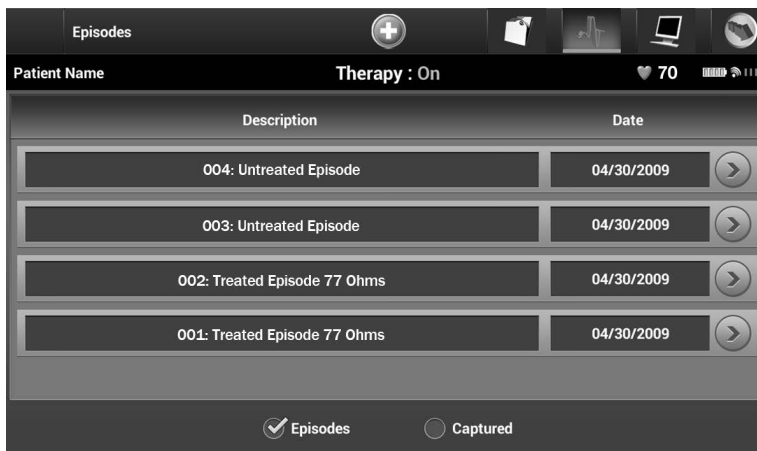

Figure 36: *Stored Episodes screen (scrollable list)*
Note: *Choosing the “View” button in the Treated Episodes row allows navigation directly to the list of stored episodes (Figure 36).*
5. Select an episode (treated or untreated) from the list (Figure 36). The selected episode will be downloaded from the SQ-RX device and displayed.
Note: *In order to be available for printing, episodes must be individually selected and viewed from the Stored Episodes Screen (Figure 36).*
Note: *In order to be available for printing, episodes must have been individually selected and viewed from the Stored Episodes Screen (Figure 36).*